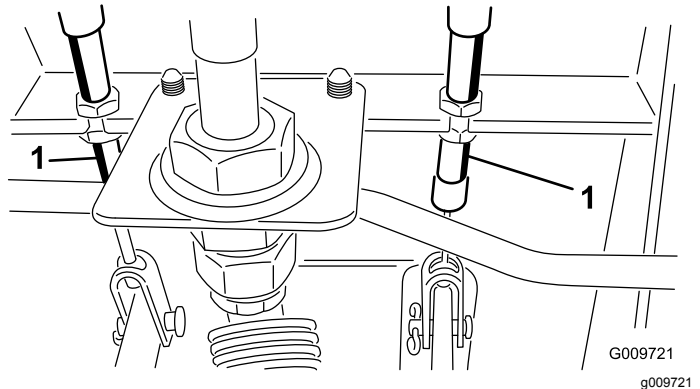

Figure 47
- A. Loosen the front nut on the threaded end of the brake cable (Figure 47).